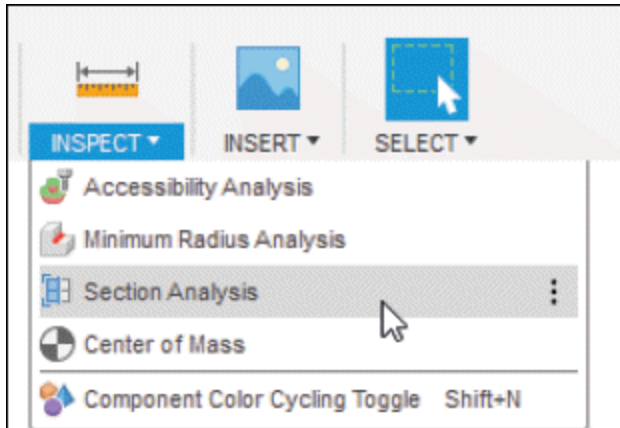
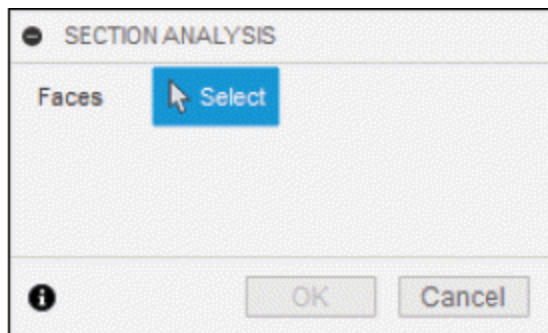

Figure-68. Section Analysis tool
Figure-69. SECTION ANALYSIS dialog box
- Click on the **Section Analysis** tool of **INSPECT** drop-down from **Toolbar**; refer to Figure-68. The **SECTION ANALYSIS** dialog box will be displayed; refer to Figure-69.